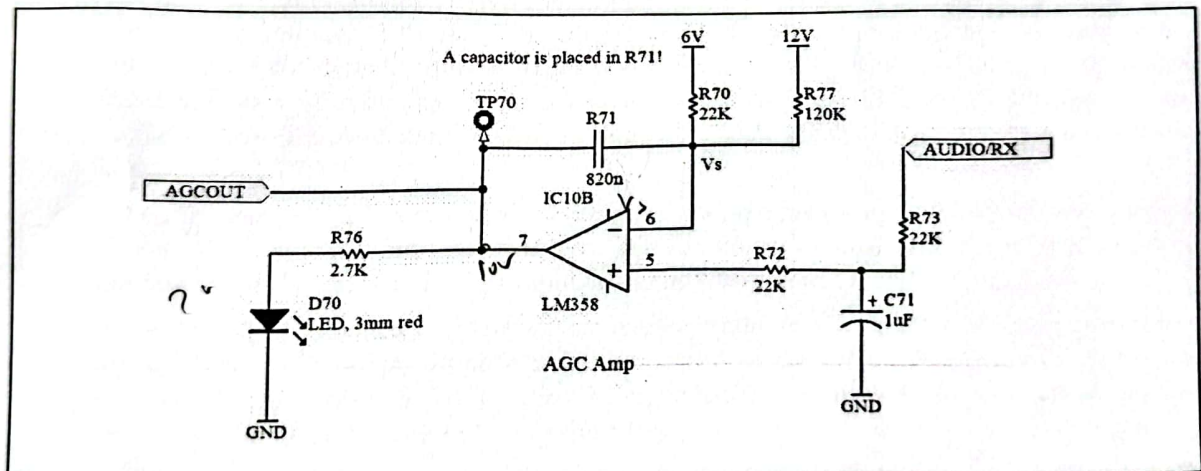

Figure 4: Automatic gain control circuit.
2. The automatic gain control (AGC) circuit of TRC-11 is given in Fig. 4.
1. Now, we are ready to incorporate the automatic gain control (AGC) circuitry to prevent saturation of the IF amplifiers. Refer to Fig. 4. Place R70, R72, R73, R77, and D71. Watch the direction of the PIN diode. Solder them. Cut the leads on the back side.